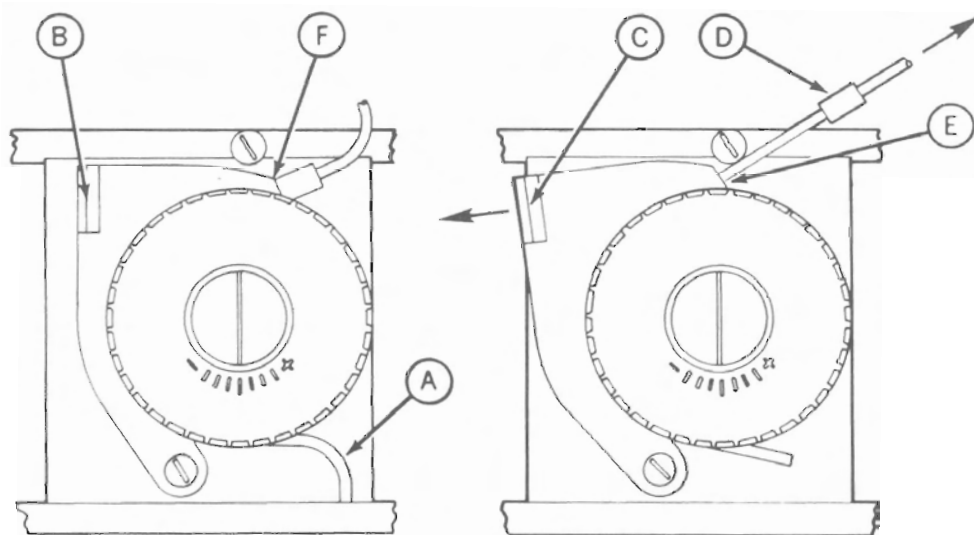

Figure 8-4
4. Disconnect tubes from cannulas and from the recessed nipples located in wall in front of the pumps. These nipples are indicated at point "A" on Figure 8-4.
5. To remove each tube from pump arm, push thumb tab on pump arm, shown at point "B" on Figure 8-4, to the left as far as possible as shown at point "C." While holding thumb tab in this position, pull plastic cuff on tube at point "D" in direction as shown, until tube is completely out of pump arm.